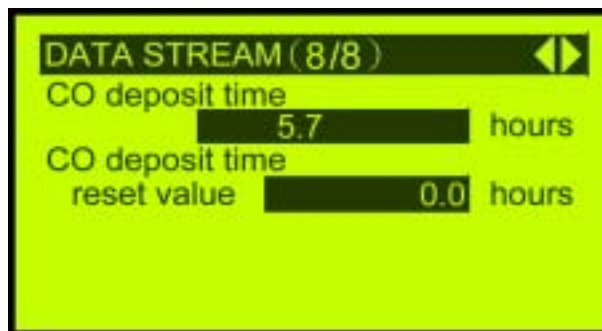
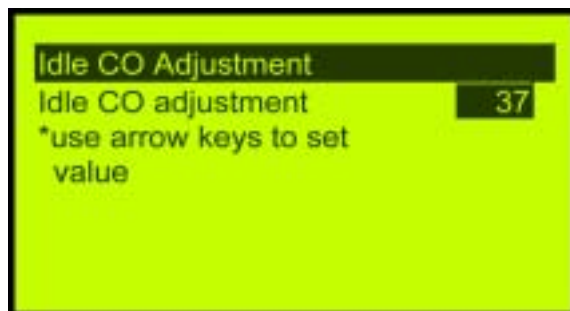

Fig 26
Fig 27
- When you do not want to check the data analysis above, press “EXIT” key to back to the “4. Idle speed CO adjustment” (LCD background changed into black) (as fig 26) on the main menu. Press “ENTER” key to enter into idle speed CO adjustment. (as fig 27) With the ▲ ▼ and ◀ ▶ cursors to adjust the idle speed CO value.